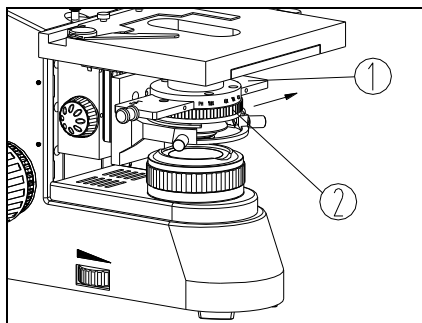

Fig. 26
1. Keep the phase contrast flapper (1) face up (upward the face with word), insert it from left to right into the condenser flapper socket as the direction of the arrow pointed (see Fig. 26).
3. When observing phase contrast, keep the adjusting ring of the aperture diaphragm (2) indicator to “PH” position.